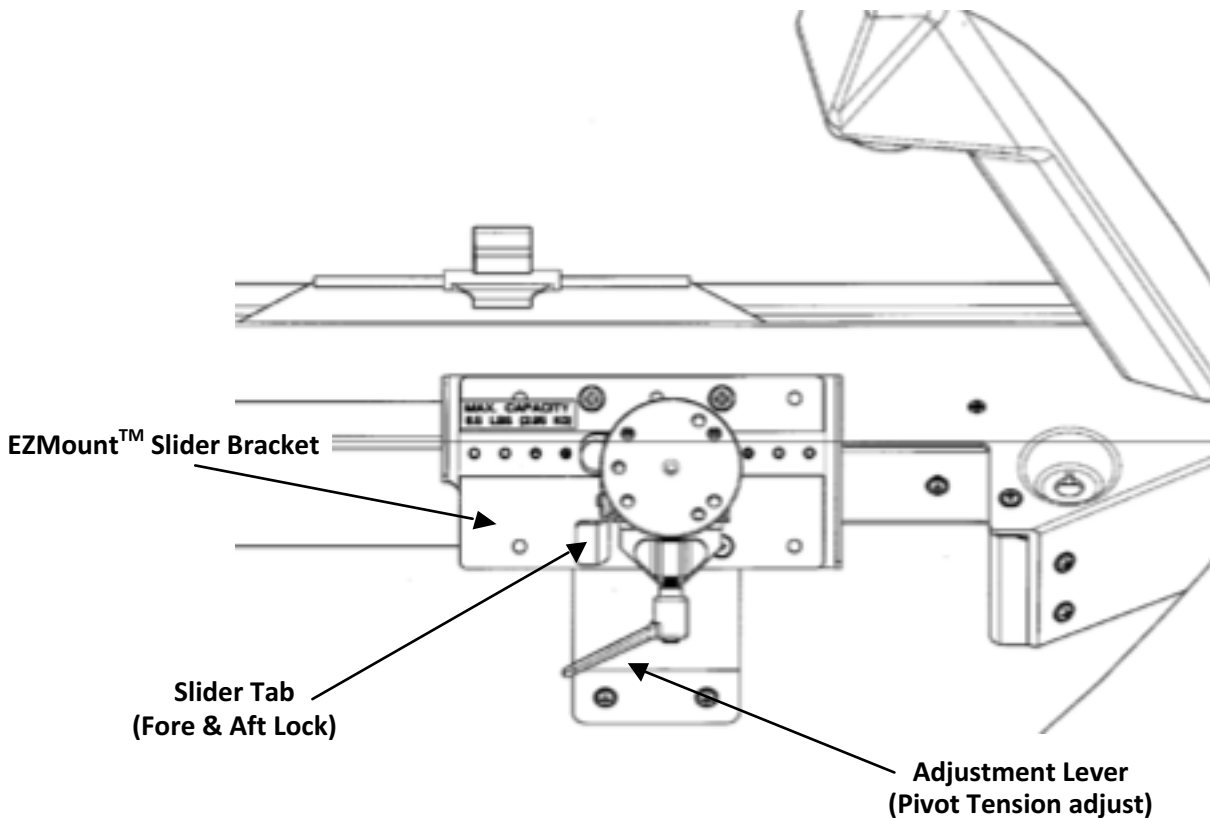

FIGURE 3: CAPTAIN SIDE WINDOW MODIFIED WITH EZMOUNT™ SLIDER
- » The EZMount™ Slider is attached to the mounting bracket (see Figure 3)